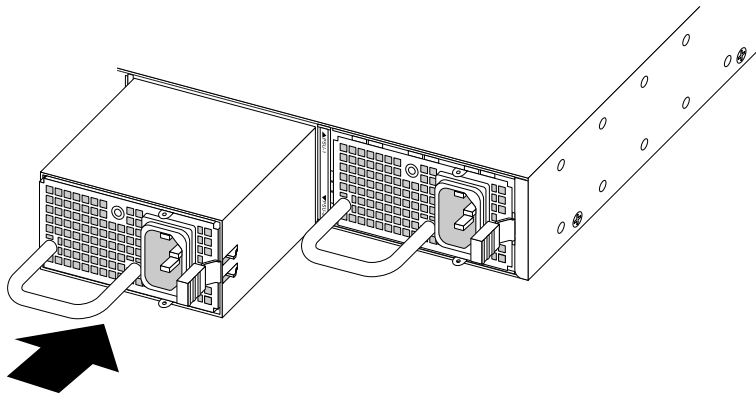

Figure 403: Installing a Summit 850 W AC Power Supply in an X650 Switch
- Carefully slide the power supply all the way into the power supply bay, as shown in Figure 403.